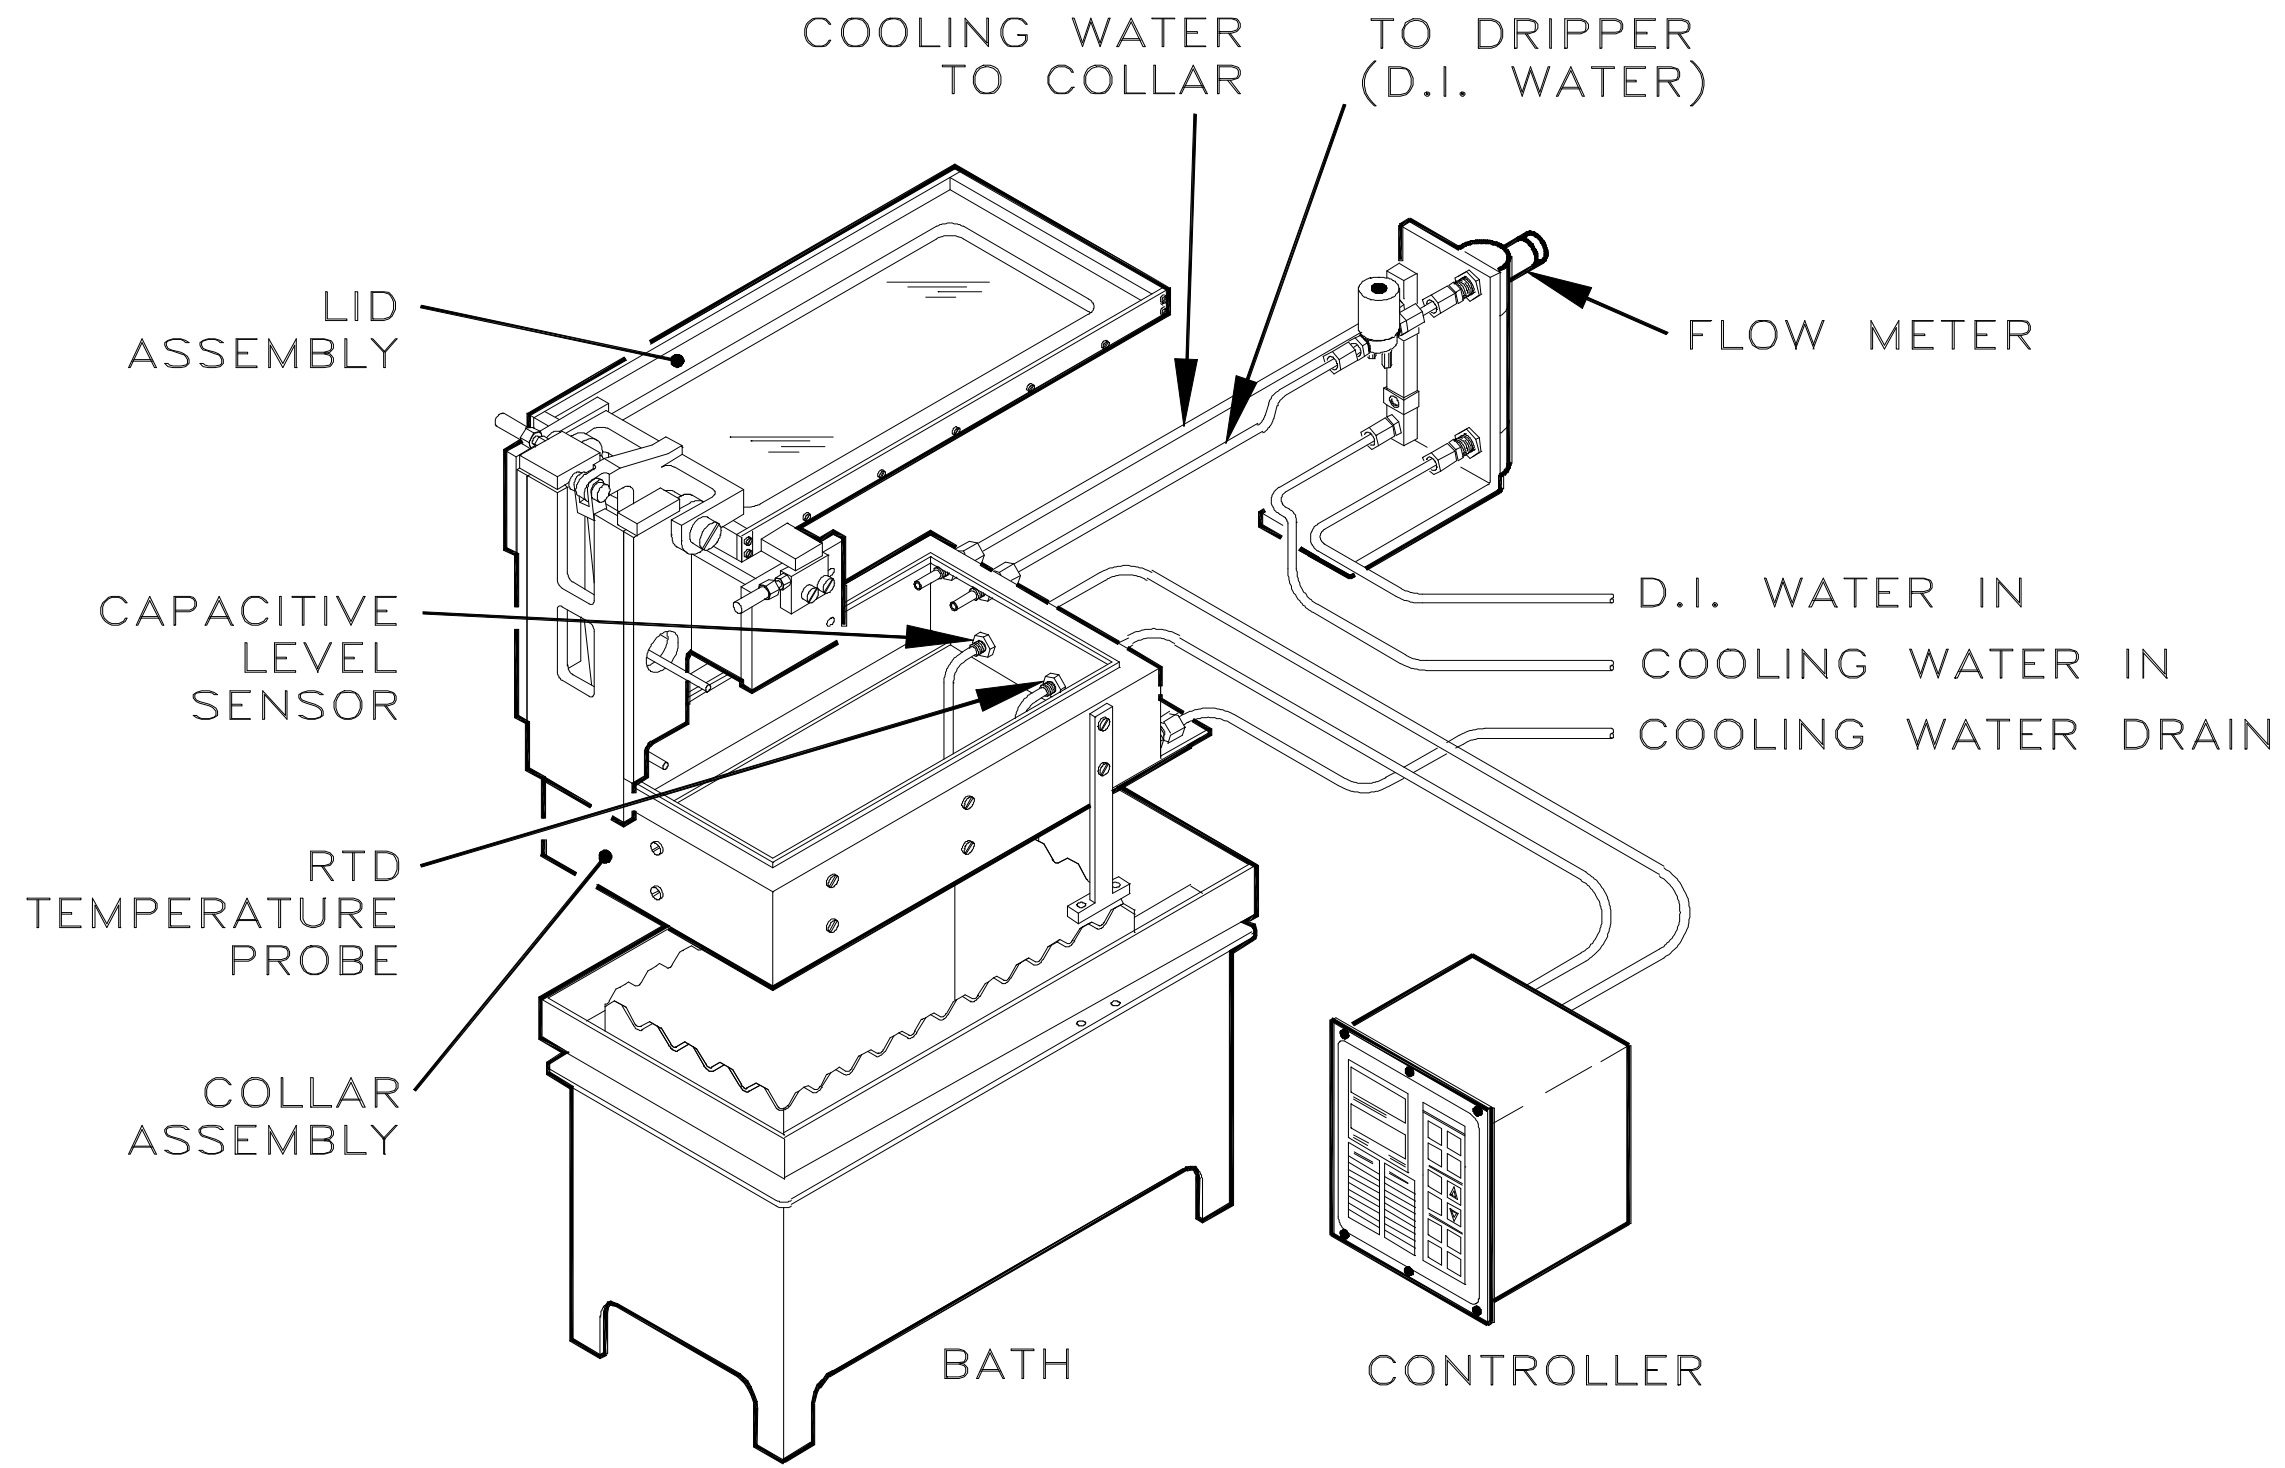

Figure 1-1. Whole-system illustration.
IMTEC's Quartz Nitride Reflux System (QN), Figure 1-1, supplies the industry's tightest, most predictable process control by providing actual acid concentration and boiling point control in an extremely efficient self-balancing reflux system. Your Quartz Nitride system may be a standard IMTEC static (QZ) or recirculating (QRT/S) bath with a water-cooled collar and manual or automatic lid. A flowmeter regulates the cooling and the IMTEC 952 Controller provides process accuracy.